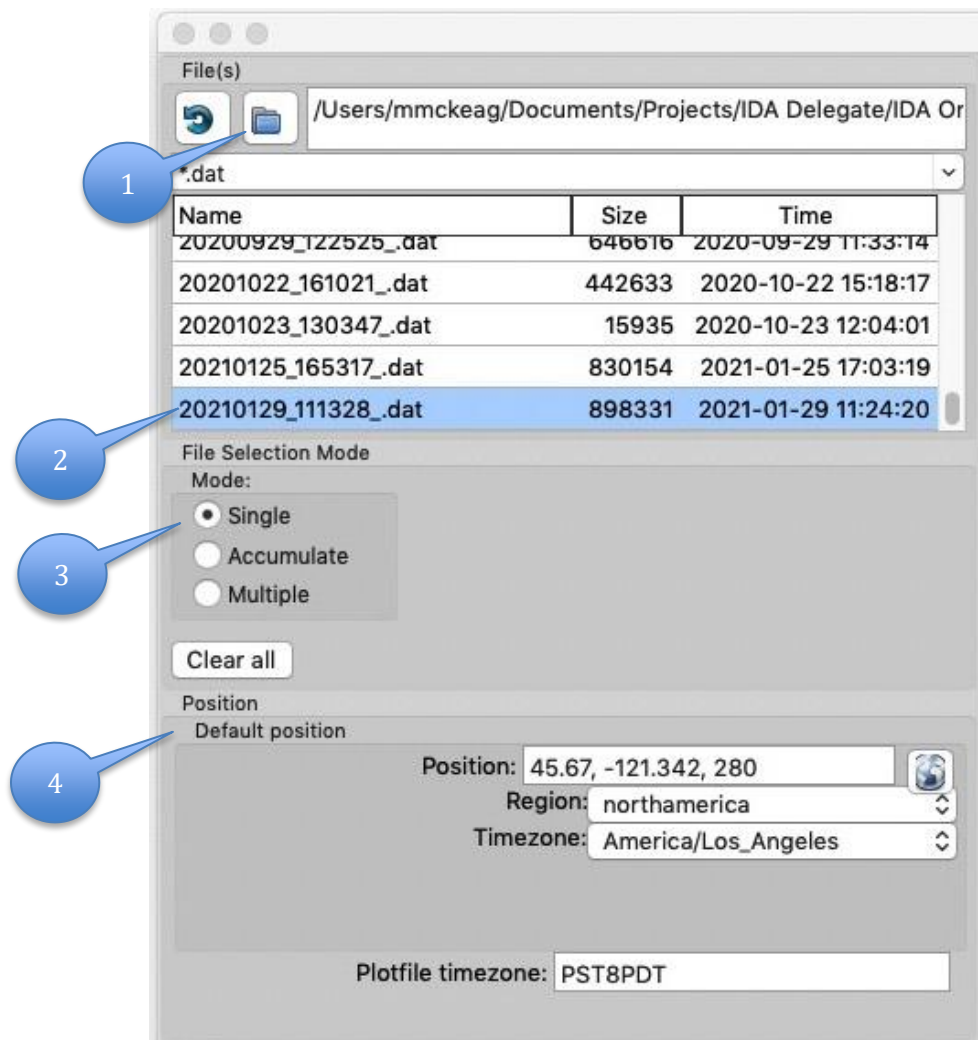

Figure 10: Plotter files selection panel.
- b. In the Plotter files selection panel (*Figure 10*) click the file folder icon (1) to open the file browser and browse to the file folder in which the retrieved data was saved if the correct folder is not already selected.
- c. Scroll down the file list and select the data file just created by the data retrieval process (2).
- d. Under File Selection Mode, Single should be selected (3).
- e. Under Position (4), the coordinates, region and time zone are displayed (read from the data file header).